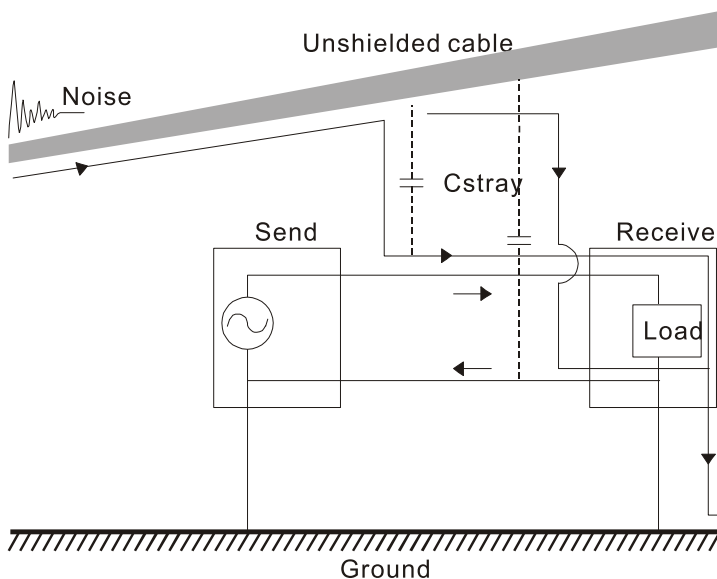

Figure A-3
- Common-mode noise is coupled via the power cable to other power systems then the cable of such a power system is coupled to the transmission system, as shown in Figure A-3.